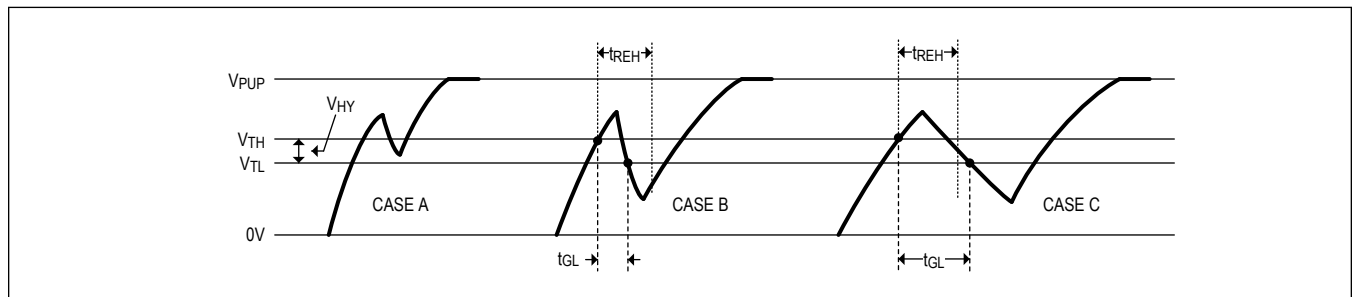

Figure 9. Noise Suppression Scheme
- On the low-to-high transition, if the line rises above V_{TH} but does not go below V_{TL} , the glitch is filtered (Figure 9, Case A.)
- The rising-edge hold-off delay (nominally 100ns), t_{REH} , filters glitches that go below V_{TL} before t_{REH} has expired (Figure 9, Case B). Effectively, the device does not see the initial rise, and the t_{REH} delay resets when the line goes below V_{TL} .
- If the line goes below V_{TL} after t_{REH} has expired, the glitch is not filtered and is taken as the beginning of a new time slot (Figure 9, Case C.)